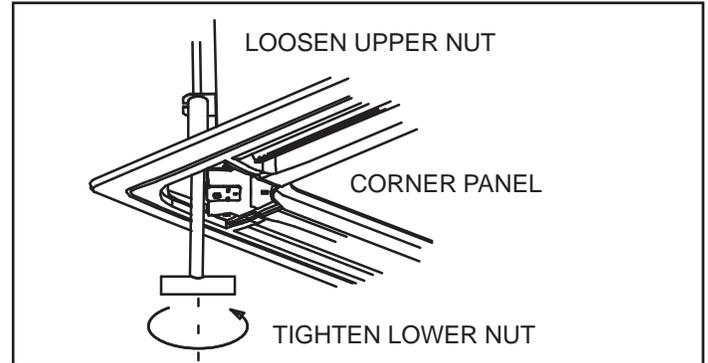

Figure 17. Adjust Unit Height Through Corner Panel
11. If it is necessary to adjust the cassette height after the cover panel has been installed, access the leveling nut through the removable access cover on each corner. See figure 17.